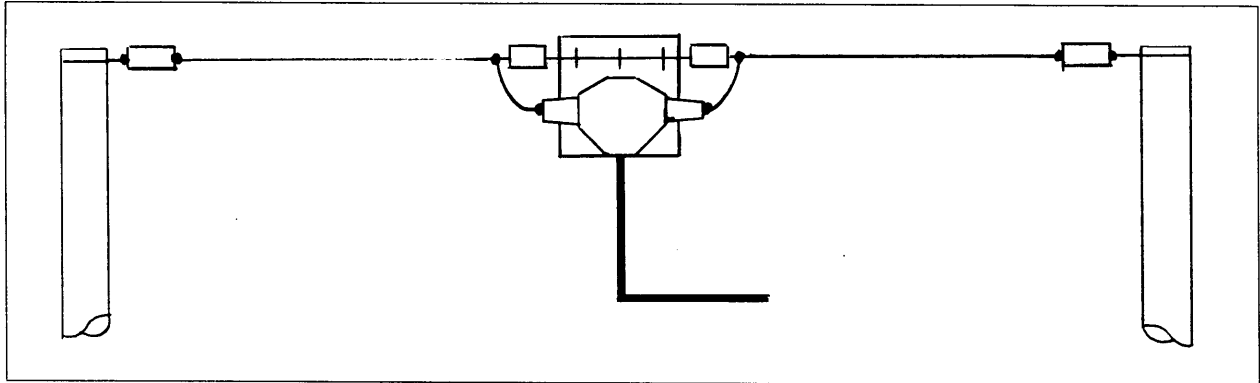

Figure 2.1 Schematic Diagram, Typical Dipole Antenna System
- Figure 2.1**    **Schematic Diagram, Typical Dipole Antenna System**